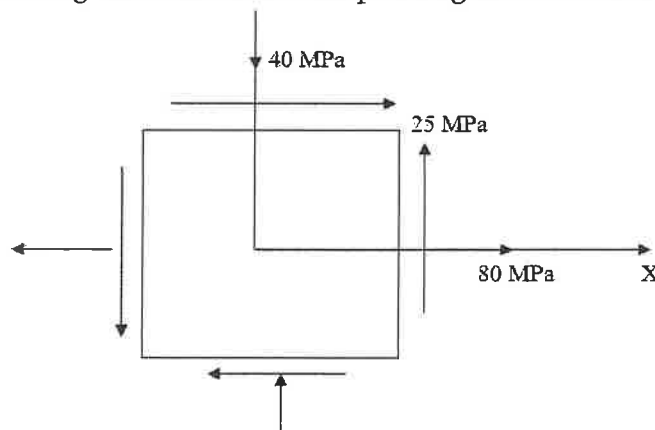

Figure Q4.
- Q4. a) For the state of plane stress shown in the Figure Q4., determine using the transformation equations,